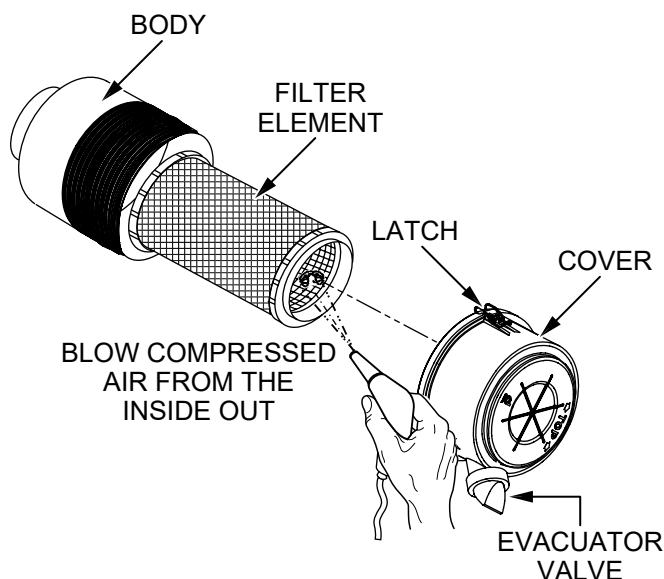

Figure 45. Engine Air Cleaner
The **air cleaner** (Figure 45) of this Kubota diesel engine is equipped with a replaceable, high-density, paper **filter element**. Check the air cleaner daily or before starting the engine. Open the **evacuator valve** once a week under ordinary conditions (or daily when used in dusty conditions) to get rid of large particles of dust and dirt. Replace the air cleaner every year or every six cleanings.
1. Release the latches (Figure 45) that secure the air cleaner cover to the air cleaner body.
2. Remove the air cleaner cover (Figure 45) and set it aside.
3. Remove the filter element (Figure 45).
4. To clean the filter element (paper air filter) as shown in Figure 45, blow compressed air, not to exceed 30 psi (205 kPa, 2.1 kgf/cm²), through the filter element from the inside out.
6. Use a cloth to clean the inside of the air cleaner body (Figure 45).